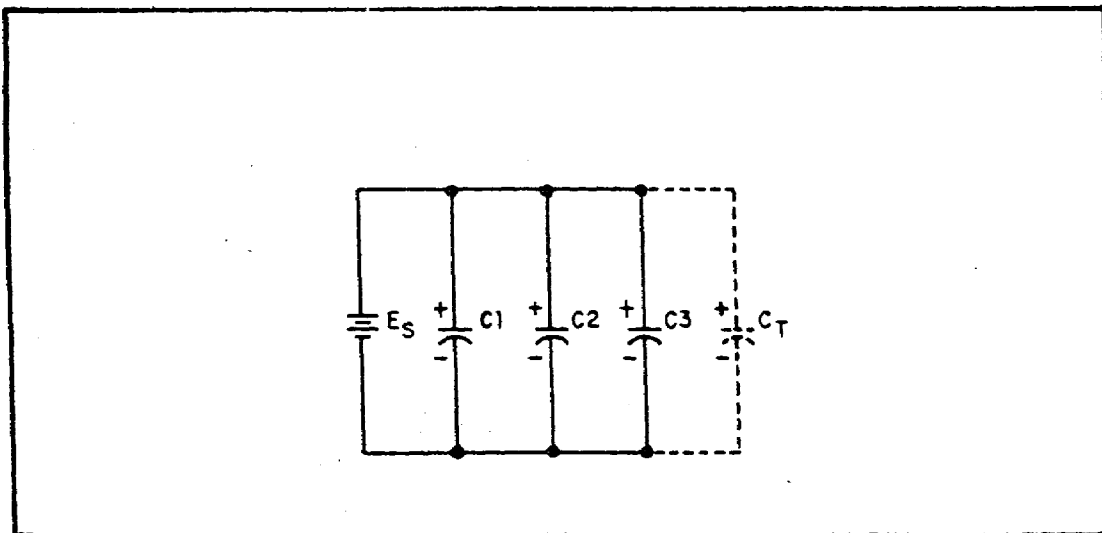

FIGURE 40. PARALLEL CAPACITIVE CIRCUIT.
(2) *Capacitors in Parallel.* When capacitors are connected in parallel, one plate of each capacitor is connected directly to one terminal of the source, while the other plate of each capacitor is connected to the other terminal of the source. Figure 40 shows all the negative plates of the capacitors connected together, and all the positive plates connected together. C_T , therefore, appears as a capacitor with a plate area equal to the sum of all the individual plate areas. As previously mentioned, capacitance is a direct function of plate area. Connecting capacitors in parallel effectively increases plate area and thereby increases total capacitance.